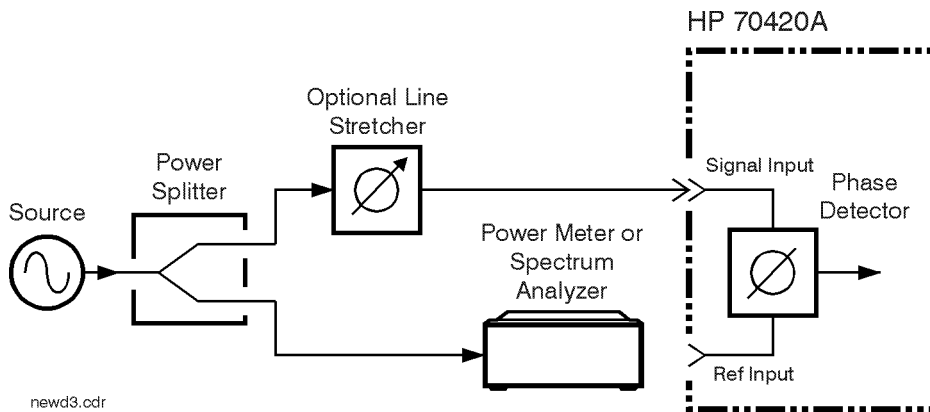

Figure 8-9 Measuring Power at Phase Detector Reference Input Port
- 5** If you are not certain that the power level at the Reference Input port is within the range shown in the preceding graph, measure the level using the setup shown in Figure 8-9.